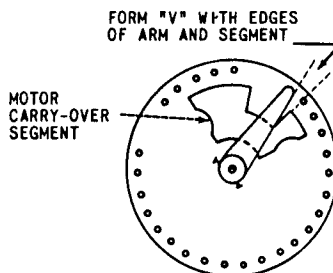
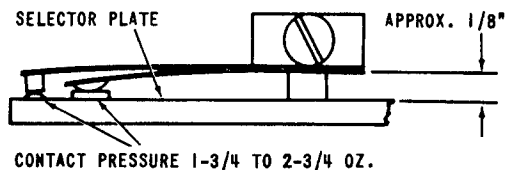

Figure 9.
Figure 10.
2. Set the Contact Arm on the shaft so the edge of the blade forms a 'V' with the edge of the motor carry-over segment as shown in Figure 9, and the lower part of the hub is spaced approximately $1/8$ " from the surface of the selector plate as shown in Figure 10.